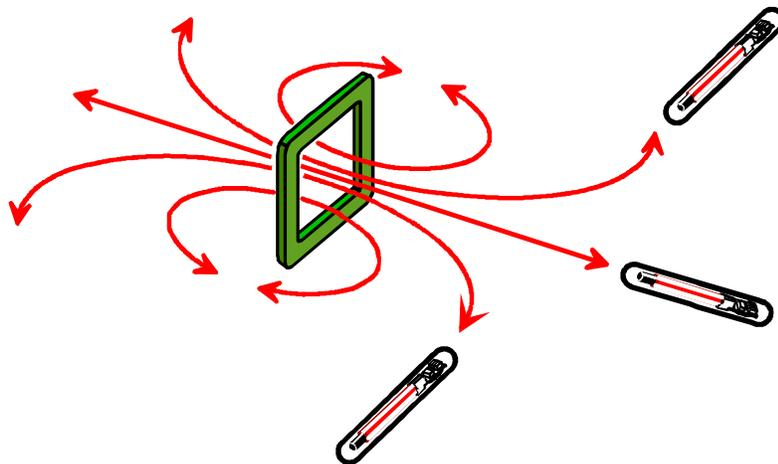

Figure 27. Field Lines
Texas Instruments LF system uses the magnetic (H) field to transfer energy to the transponder. When a current moves through an antenna it generates field lines similar as those shown in Figure 27.